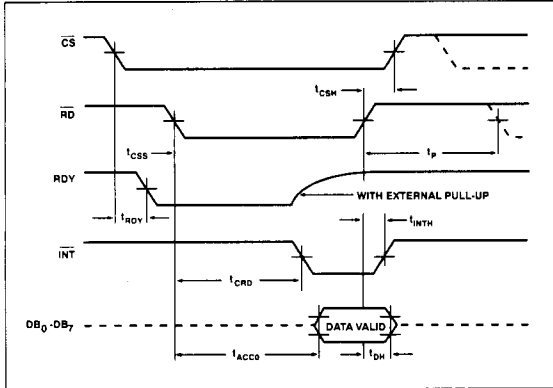

Figure 1: RD Mode (Pin 7 = 0V)
**RD MODE – Pin 7 = 0V (See Figure 1)** — This mode allows the microprocessor to start a conversion and read the data at the end of conversion with a single READ instruction. The PM-0820 also provides an INT output which goes low at the end of conversion; it is reset by the rising edge of the RD or CS when CS is low.